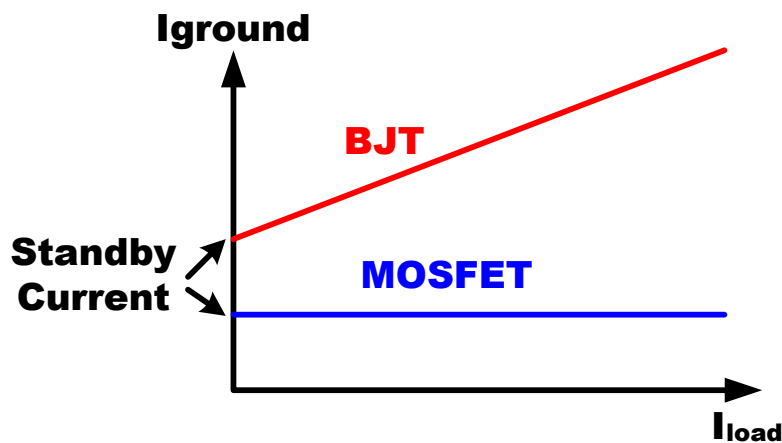

Fig. 8. Ground Current and Output Current
where I_B is the base current of a BJT, I_C is the collect current of a BJT, and β is the current gain of a BJT. Fig. 8. shows the ground current of a BJT and MOSFET varies with output current. For a BJT, the ground current increases with the output current because a BJT is a current-driven element which is shown in formula (4). For a MOSFET, the ground current is almost constant value while the output current is changed because a MOSFET is a voltage-driven element.